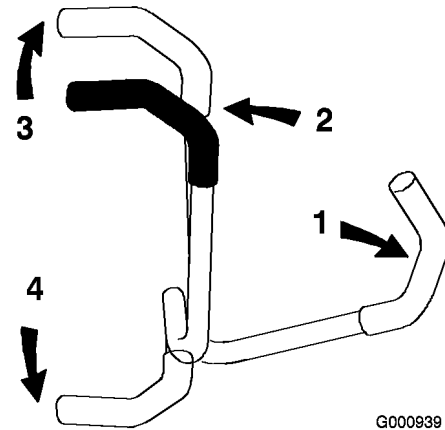

Figure 16
3. To go forward, slowly push the motion control levers forward (Figure 16).
To go straight, apply equal pressure to both motion control levers (Figure 16).
To turn, move the motion control lever toward neutral in the direction you want to turn (Figure 16).
2. To go backward, slowly pull the motion control levers rearward (Figure 16).
To turn, release pressure on the motion control lever toward the direction you want to turn (Figure 16).